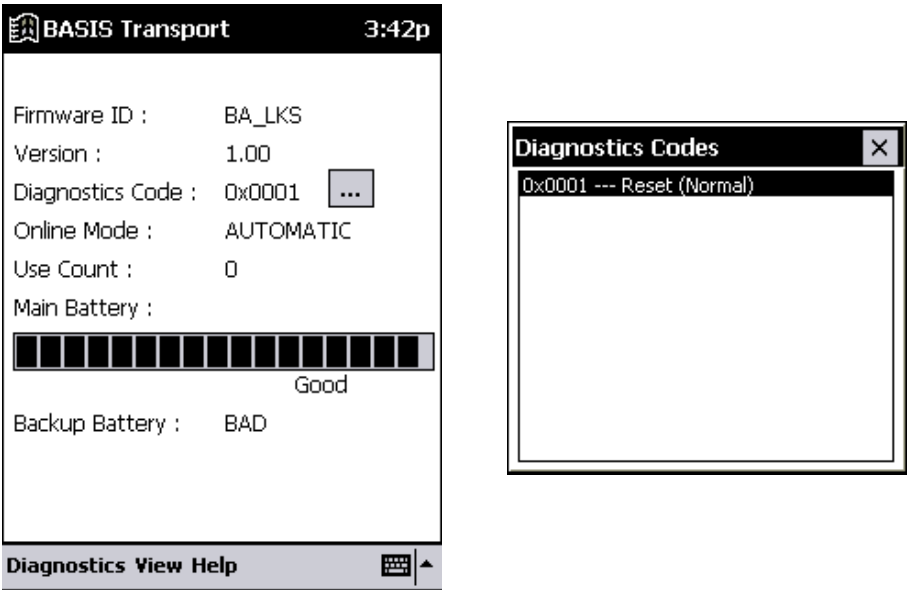

Figure 11.12 B.A.S.I.S. Transport Diagnostics window and Diagnostics Codes window
Diagnostics overview You can use B.A.S.I.S. Transport to view diagnostics information for a lock. Figure 11.12 shows an example of the diagnostics information provided. The table below describes each of the fields in the Diagnostics window.
Diagnostics Code	Hexadecimal number indicating firmware conditions, such as firmware resets, that have occurred at the lock since the diagnostics code was last cleared. The code 0x00 means no conditions have occurred. To view the meaning of the code, tap the more button (...). The Diagnostics Codes window shows each active diagnostics code and its meaning. See Figure 11.12 . Tap the close button (X) to close this window. Technical support personnel may ask you to provide this information. To clear the diagnostics code, see page 11-20 .
The diagnostics information appears on the PDA, as shown in Figure 11.12 on page 11-13.
2. *From the B.A.S.I.S. Transport Diagnostics window on the PDA, tap Diagnostics, then Set Online Mode, then the mode that you want. See Figure 11.12.*
2. *From the B.A.S.I.S. Transport Diagnostics window on the PDA (Figure 11.12 on page 11-13), tap Diagnostics, then Unlock Once.*
2. *From the B.A.S.I.S. Transport Diagnostics window on the PDA (Figure 11.12 on page 11-13), tap Diagnostics, then Reset, then Use Count.*
2. *From the B.A.S.I.S. Transport Diagnostics window on the PDA (Figure 11.12 on page 11-13), tap Diagnostics, then Reset, then Diagnostics Code.*